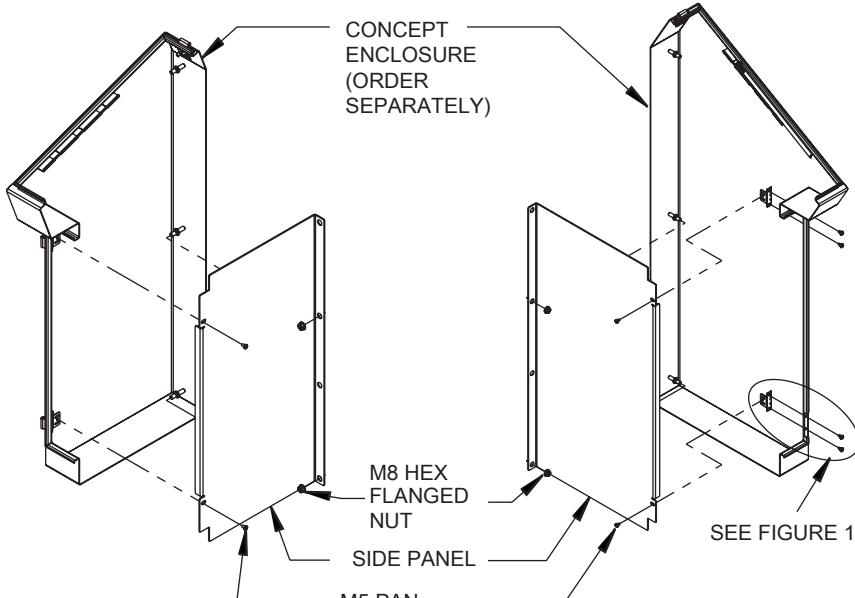

FIGURE 2
1. Install side-mounted panel into enclosure as shown in Figures 2 and 3.